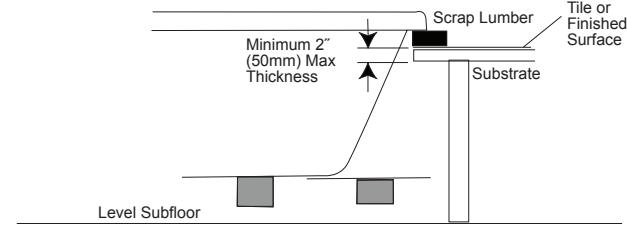

Figure 9 - Drop-In (side view)
- 8** Inspect all fittings, plumbing, and control lines after inserting the bathtub to insure the components are not damaged, disconnected, or contacting the finish surface substrate or support members (Figure 9).